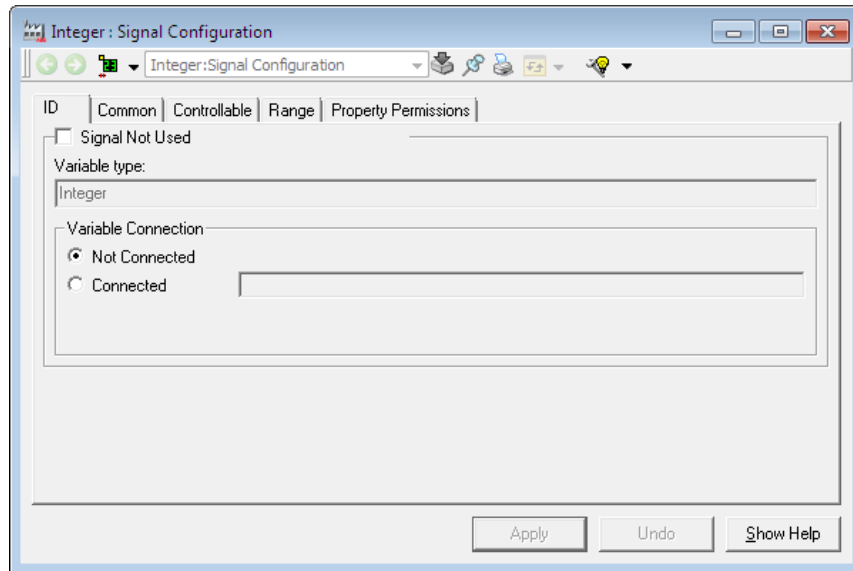

Figure 27. Signal Configuration Aspect
- In the Aspect List area, select Signal Configuration aspect as shown in Figure 27. Under ID tab, you can connect the signal to a hardware address in the controller.